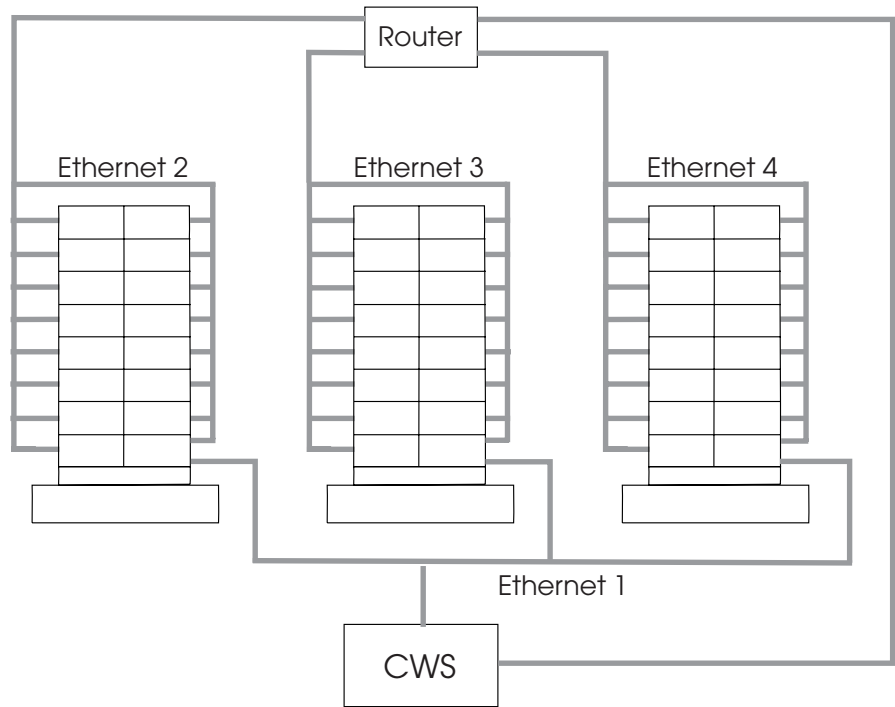

Figure 8. Method 3 Ethernet Topology for Multi-Frame SP System
3. A third method adds an external router to the topology of the previous approach. This router is made part of each of the frame Ethernets, so that traffic to the outside need not go through the control workstation. You can do this only if the control workstation can also be attached externally, providing another route between nodes and the control workstation. Figure 8 on page 78 shows this Ethernet topology for such a multiple-frame system.